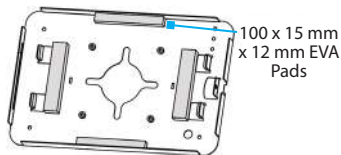

Figure 4
3. (Optional) Remove the **Adhesive Backing** from the **100 x 15 x 12 mm Foam Blocks** (x 2) and affix along the inside edge on the top and bottom of the **Rear Plate**. (Figure 4)